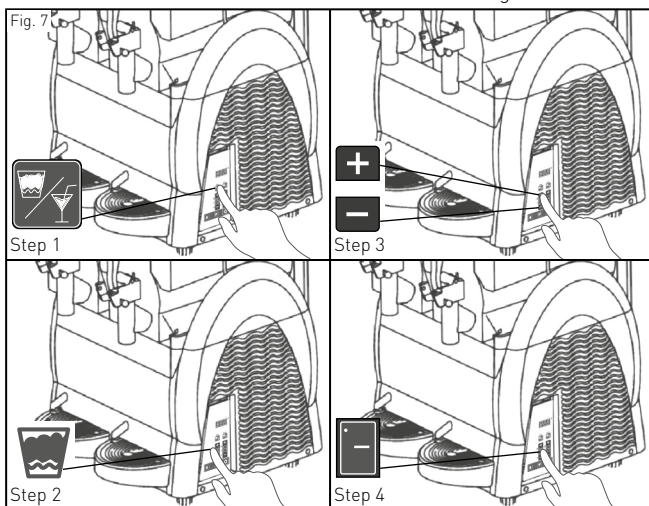

Fig. 7
- Then, press "+" or "-" consecutively to adjust the hardness. The level in between from 1 (Soft with much water content) to 7 (Hard with less water content). See Fig 7.